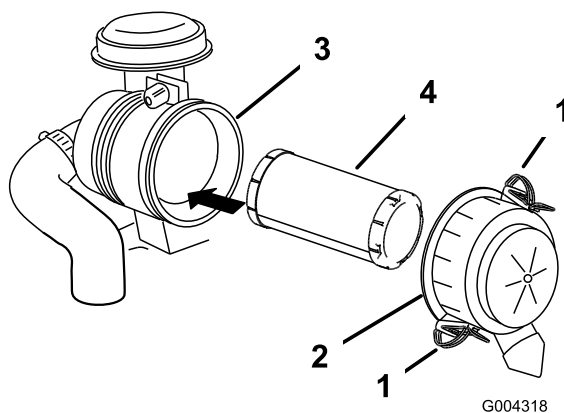

Figure 28
3. Release the latches on the air cleaner and pull the air cleaner cover off of the air cleaner body (Figure 28).
5. Gently slide the air filter out of the air cleaner body (Figure 28). Avoid knocking the filter into the side of the body.
2. Carefully slide the air filter into the body (Figure 28).
3. Install the air cleaner cover with the side indicated as UP facing up and secure the latches (Figure 28).